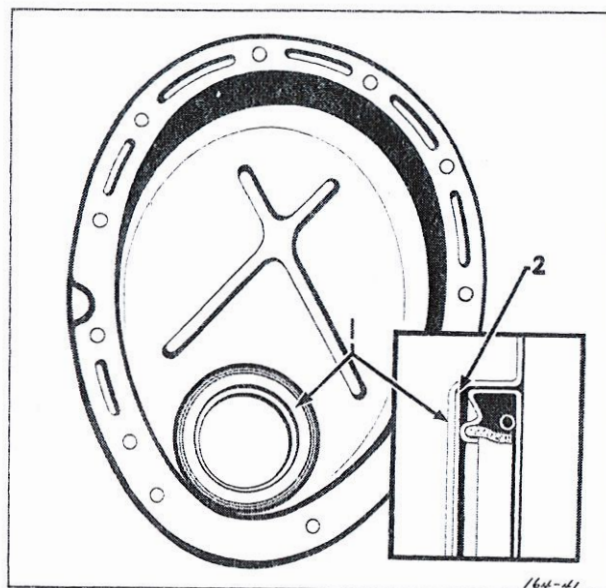

Fig. 7—Chain Case Cover Oil Seal
The chain and sprockets are continuously lubricated by a jet of oil directed into the inside face of the chain as it rolls onto the crankshaft sprocket. This assembly is covered and sealed oil tight under a stamped steel case (1), (Figure 7) which is provided with a gasket for the flange and circular oil seal (2), (Figure 7) spring retained raw hide, against the hub of the pulley on the front end of the crankshaft. This oil seal assembly is furnished separately.